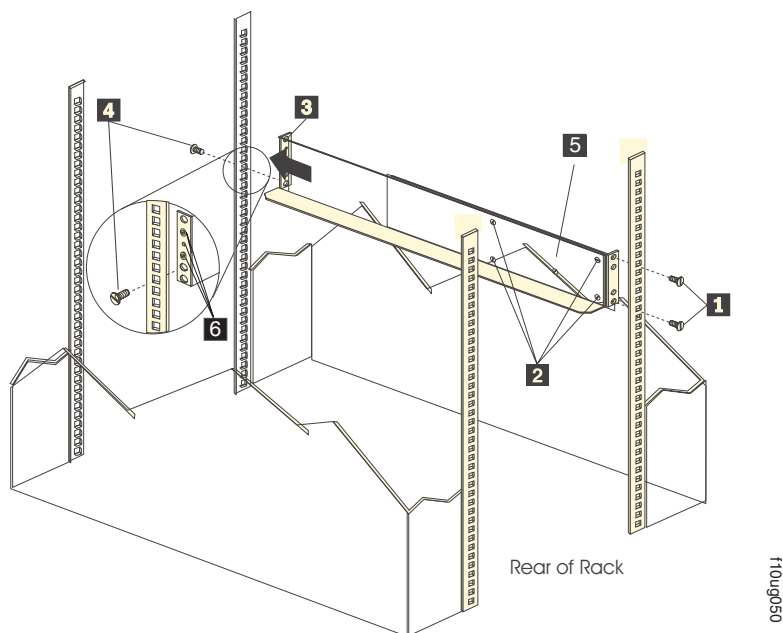

Figure 12. Installing the support rails
Note: Refer to Figure 12 on page 24 while performing these steps.
Note: The support rails are not marked as Left or Right. However, each rail can be correctly mounted on only one side of the rack cabinet. The rails should be mounted with the alignment pins at the front of the rack cabinet. Figure 12 shows the installation of the left support rail.
- d. From the back of the rack cabinet, insert the two 6/32 in. screws (**5** in Figure 12 on page 24), one on each side, in the holes located on the tab on each side of the unit. Tighten the screws.